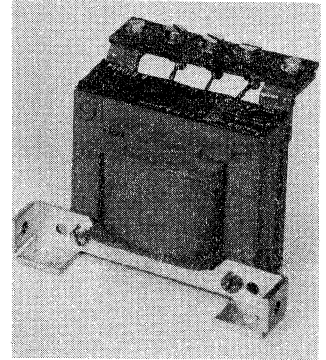

Fig. 32 Example of a choke.
C) For **electrical parallel connection** order also chokes (Fig. 32); see column 3 of the table.